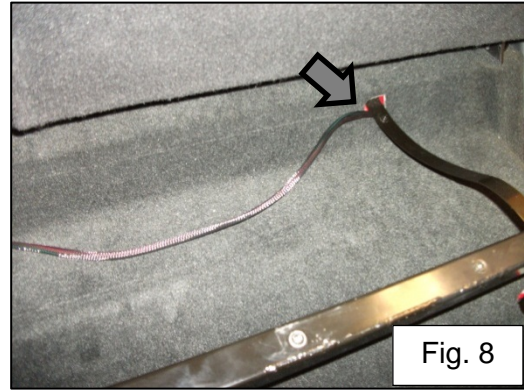

Fig. 8
14. Route the subwoofer harness along the driver side door openings. Pull harness under carpet and through hole near rear seat frame on the driver side. Fig. 8